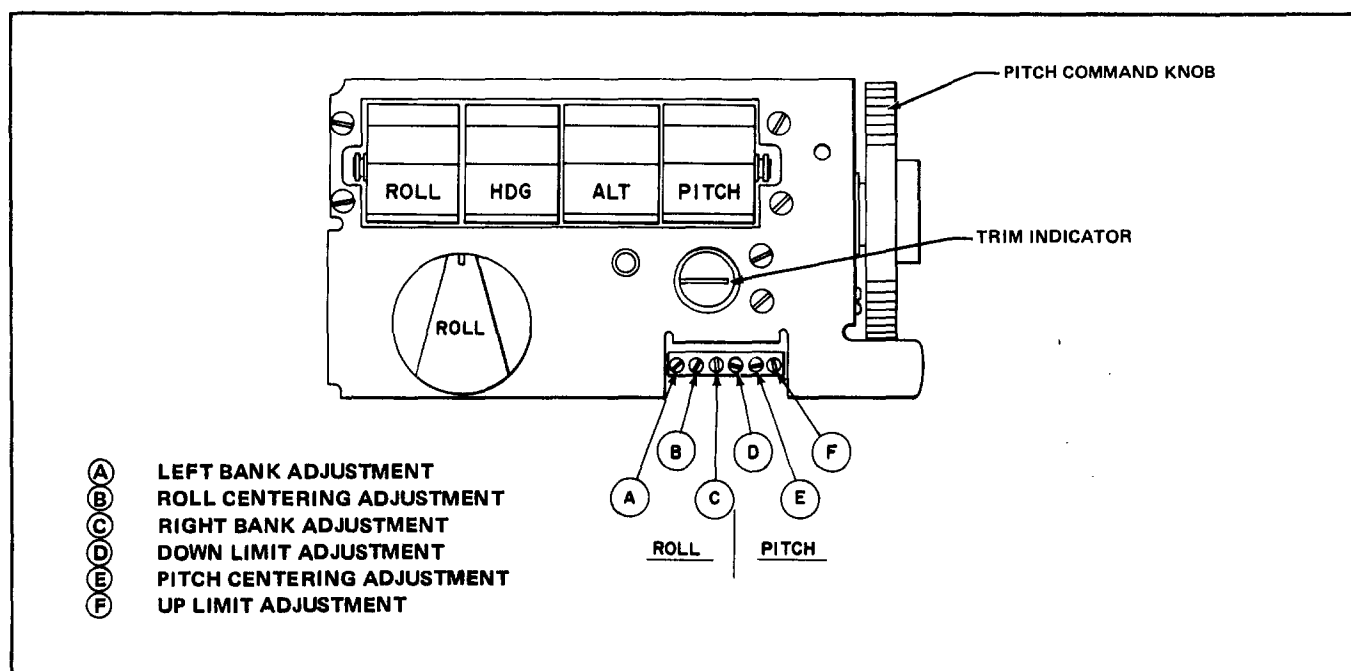

Figure 5-1. AltiMatic IIC Console
33. Find six adjustment potentiometers located on the front of the console and directly under the trim meter. (Refer to Figure 5-1.) Insert SMALL slot head screwdriver in SECOND HOLE FROM LEFT and adjust the roll centering adjustment until needle of voltmeter of Power Section Test Box centers and holds on ZERO. If unable to adjust needle to ZERO by rotating the adjustment screw, replace console.
20. With a small slot head screwdriver adjust the FIFTH POTENTIOMETER from the left, located directly below the trim meter on the console, to center the needle on the Power Section Test Box to ZERO. (Refer to Figure 5-1.)